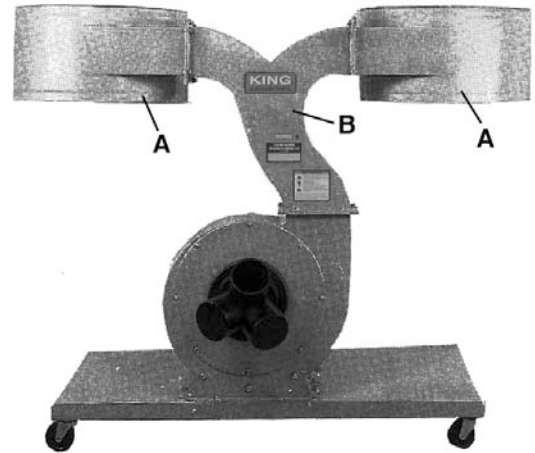

**FIGURE 7**
5. Attach connector tube (A) Fig.7 to the fan housing (B) using hex. bolts, washers and nuts. Make sure the connector tube faces the proper direction, as shown in Fig.7.